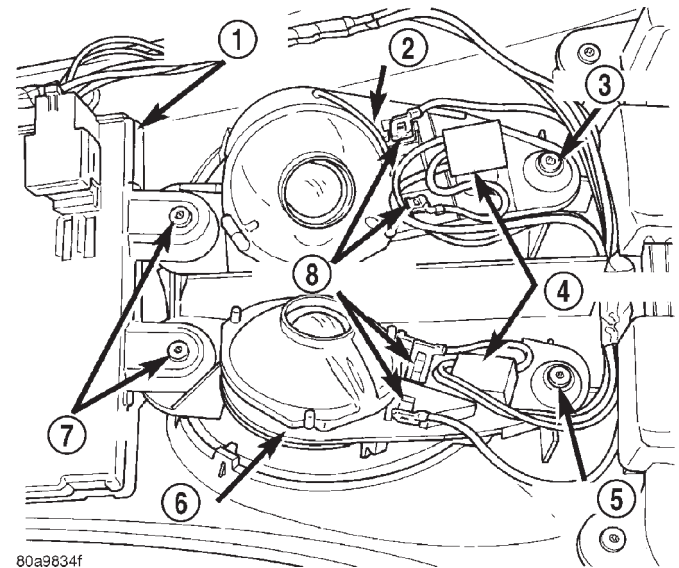

Fig. 14 Overhead Console Reading Lamp
- (1) Remove overhead console.
- (2) Remove screws attaching reading lamp to overhead console (Fig. 14).
- (3) Disconnect reading lamp harness connector.
- (4) Separate lamp from vehicle.